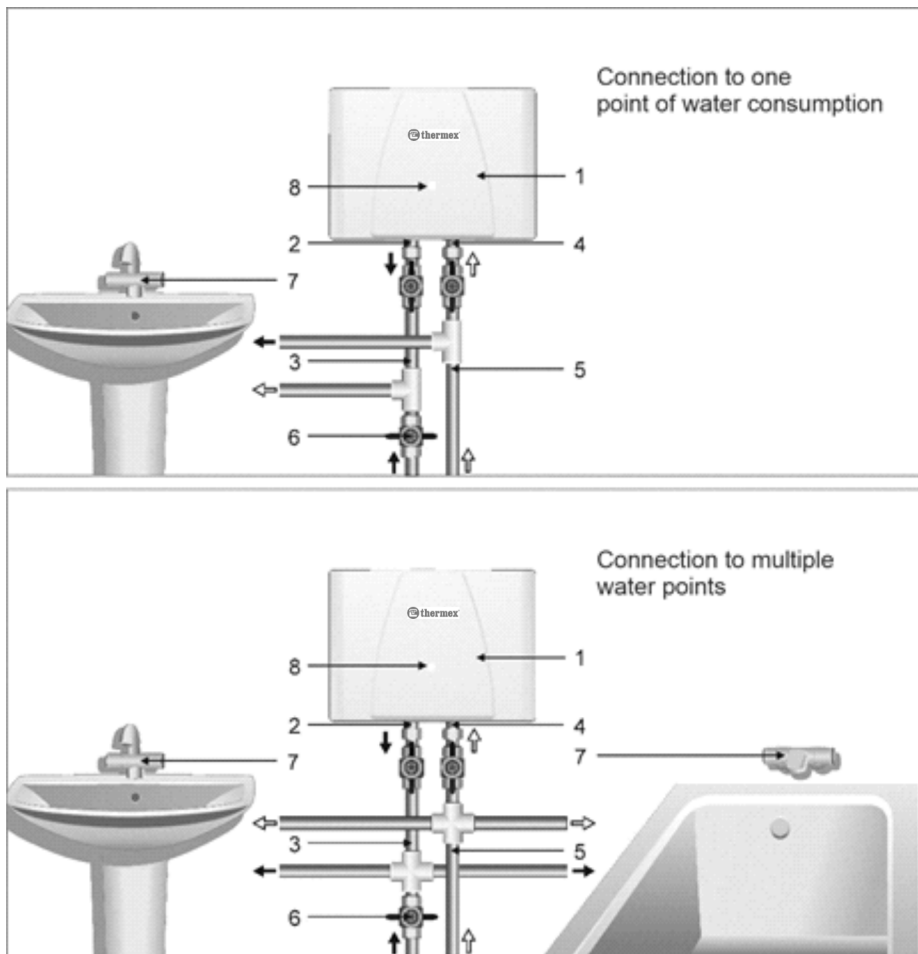

Figure 4. Connection of the IEWH to the water line
1. The water flow is regulated by a hot water tap in the mixer faucet (Figure 4 point 7) at the IEWH outlet. By reducing the water flow you increase the water temperature at the outlet and vice versa.
2. Make sure that the power and working pressure correspond to the values from Table 1. The IEWH switching on and heating start automatically, concurrently the front panel indicator lights on (Figure 4, point 8).
4. In order to switch off the water heater, close the hot water tap in the mixer faucet (Figure 4, point 7), the pressure sensor will automatically break the circuit of power feeding to the heating element. Concurrently the front panel indicator will light off. (Figure 4, point 8).